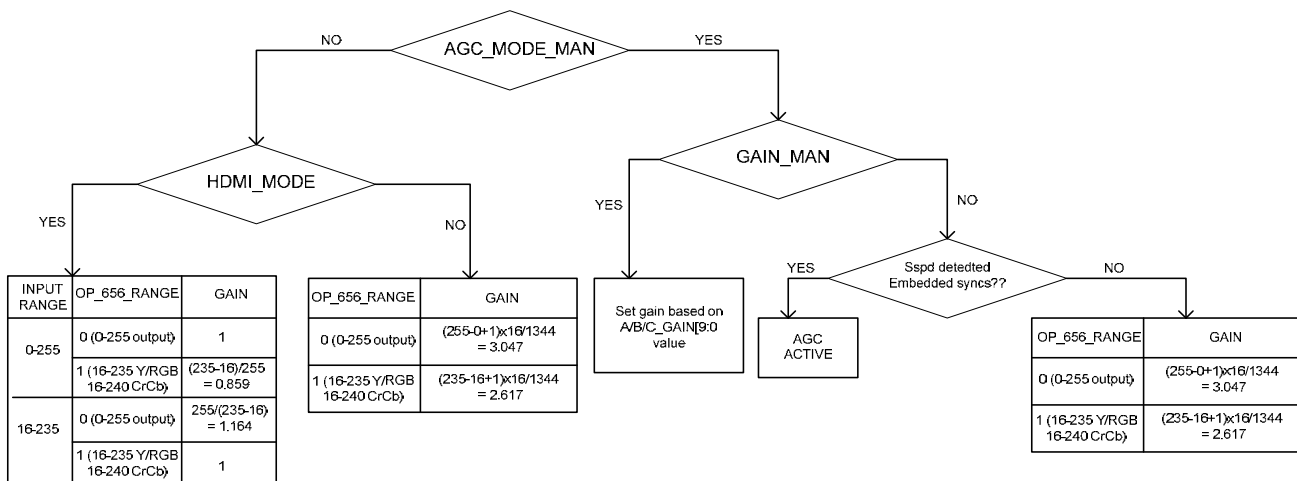

Figure 110: CP Automatic Gain Controls
Figure 110 shows how the gain is applied to the video data processes by the CP section. The following gain configurations are available:
- If, however, SSPD does not find any external synchronization signal, it concludes that the synchronization must be embedded. This switches the gain block in the CP core into automatic mode (refer to Section 10.8). This function can be disabled using the AGC mode manual enable control, `AGC_MODE_MAN`, as illustrated in Figure 110.